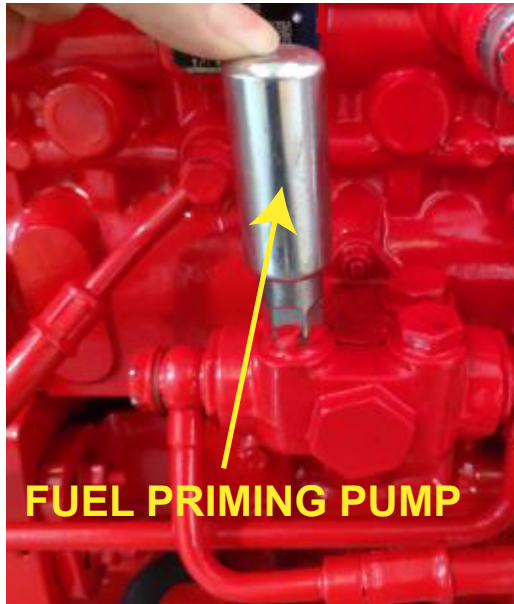

FIGURE 22 - FUEL SYSTEM PRIMING PUMP
- A small priming pump is also present on the injection pump assembly for manually priming the fuel pump assembly. See FIGURE 22. With the injection pump bleed screw loose, begin pumping the priming assembly until only fuel leaks out of the bleed screw. If bubbles are escaping the bleed screw, continue as there is still air in the system. When only diesel fuel is leaking out of the bleed screw, tighten the bleed screw.